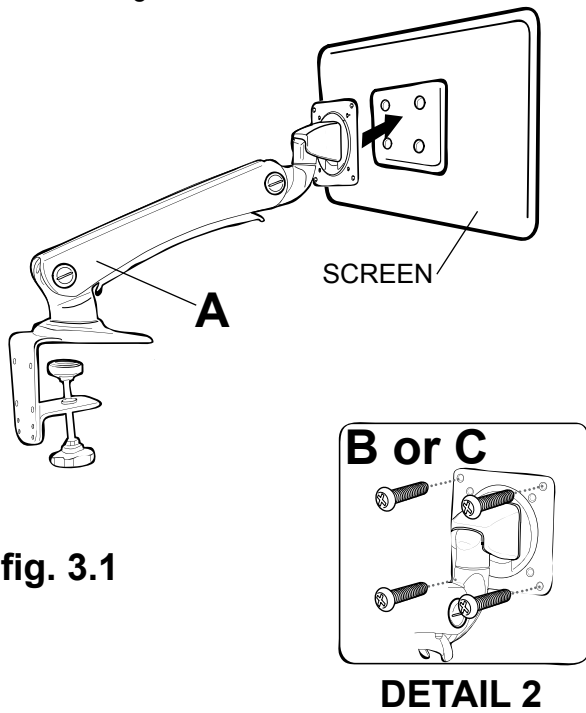

fig. 3.1
- 3 Attach front of arm assembly (**A**) to back of screen with four screws (**B or C**) as shown in detail 2 using VESA 75 or VESA 100 mounting pattern as shown in figure 3.1.